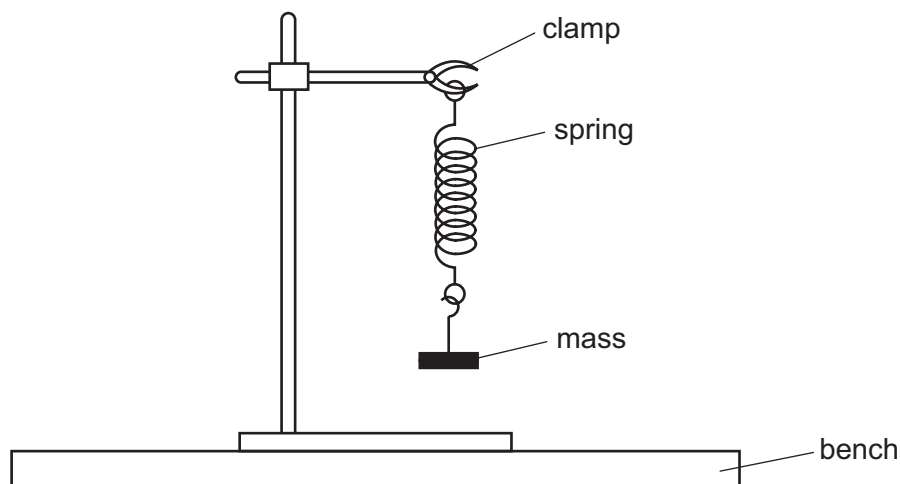

Fig. 6.1
- Set up the apparatus as shown in Fig. 6.1 with a 0.10 kg mass (100g) on the spring.